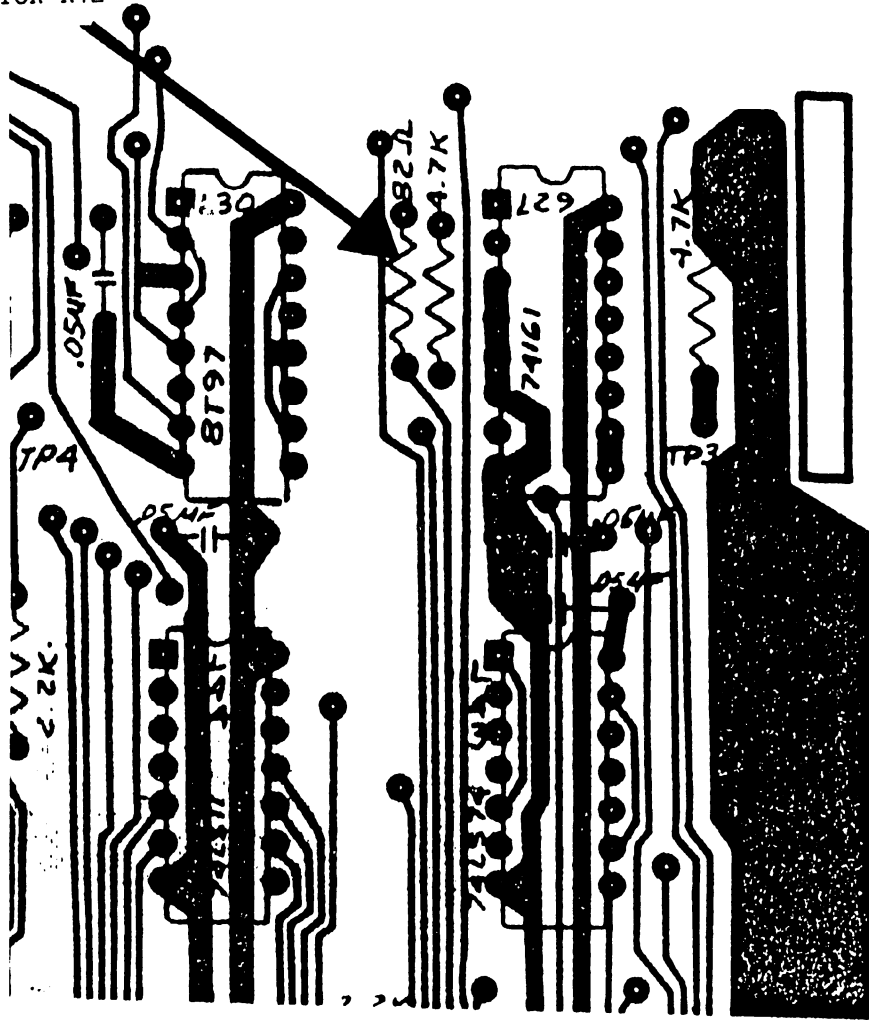

FIGURE 16 ECN 13403 FOR 210-7426 PCB
1. Remove (do not discard) the 82 ohm resistor R12 located between L29 and L30. Refer to Figure 16.